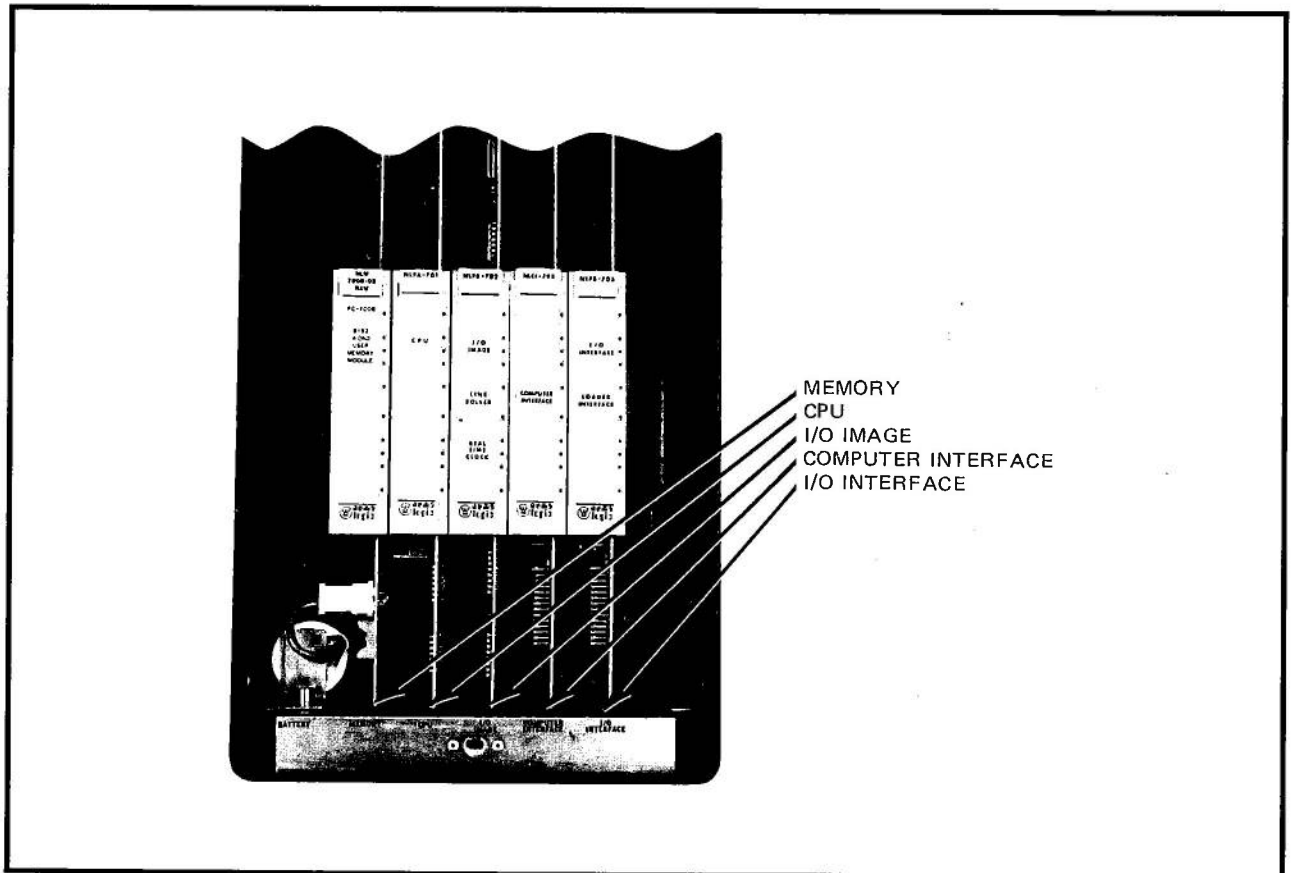
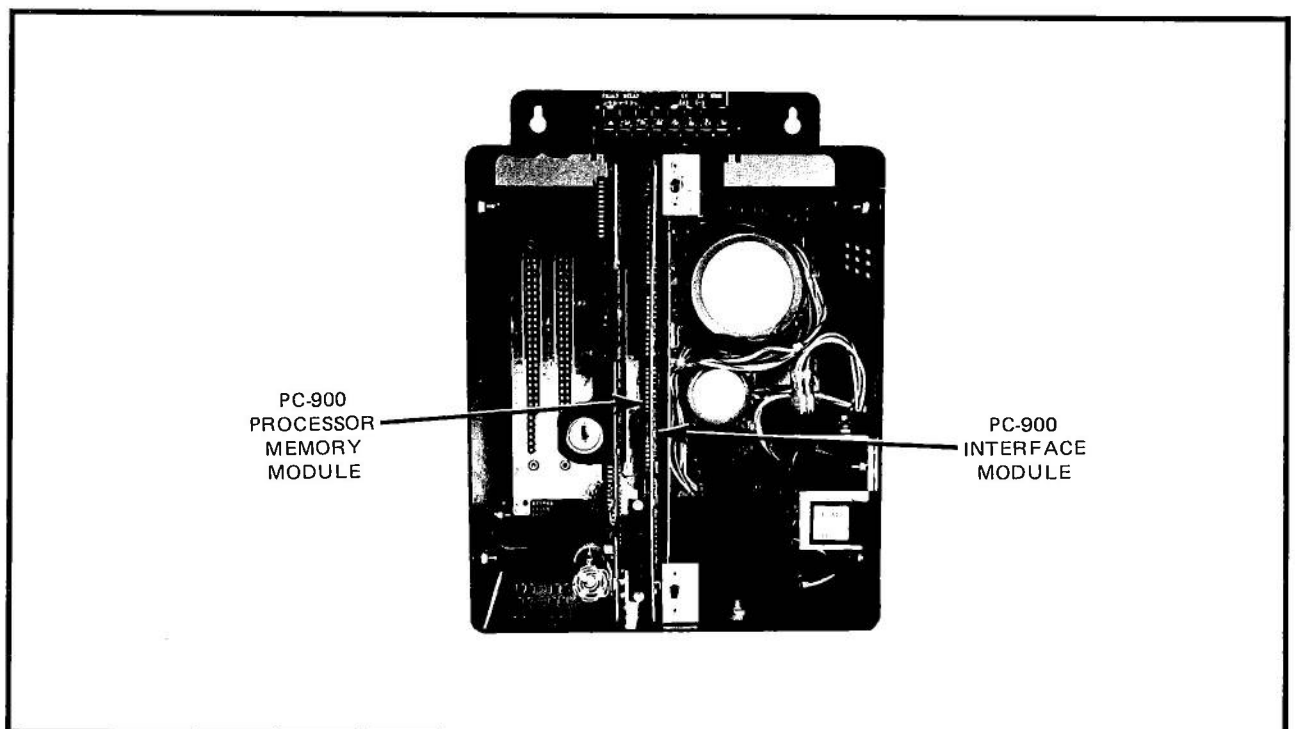

Figure 9-15. PC-700 Module Locations
Figure 9-16. PC-900 Module Locations
6. **PC-700/900** — Check to see that all internal processor modules are located in proper slots and sealed properly. Figure 9-15 shows the PC-700 module locations and Figure 9-16 shows the PC-900 module locations.